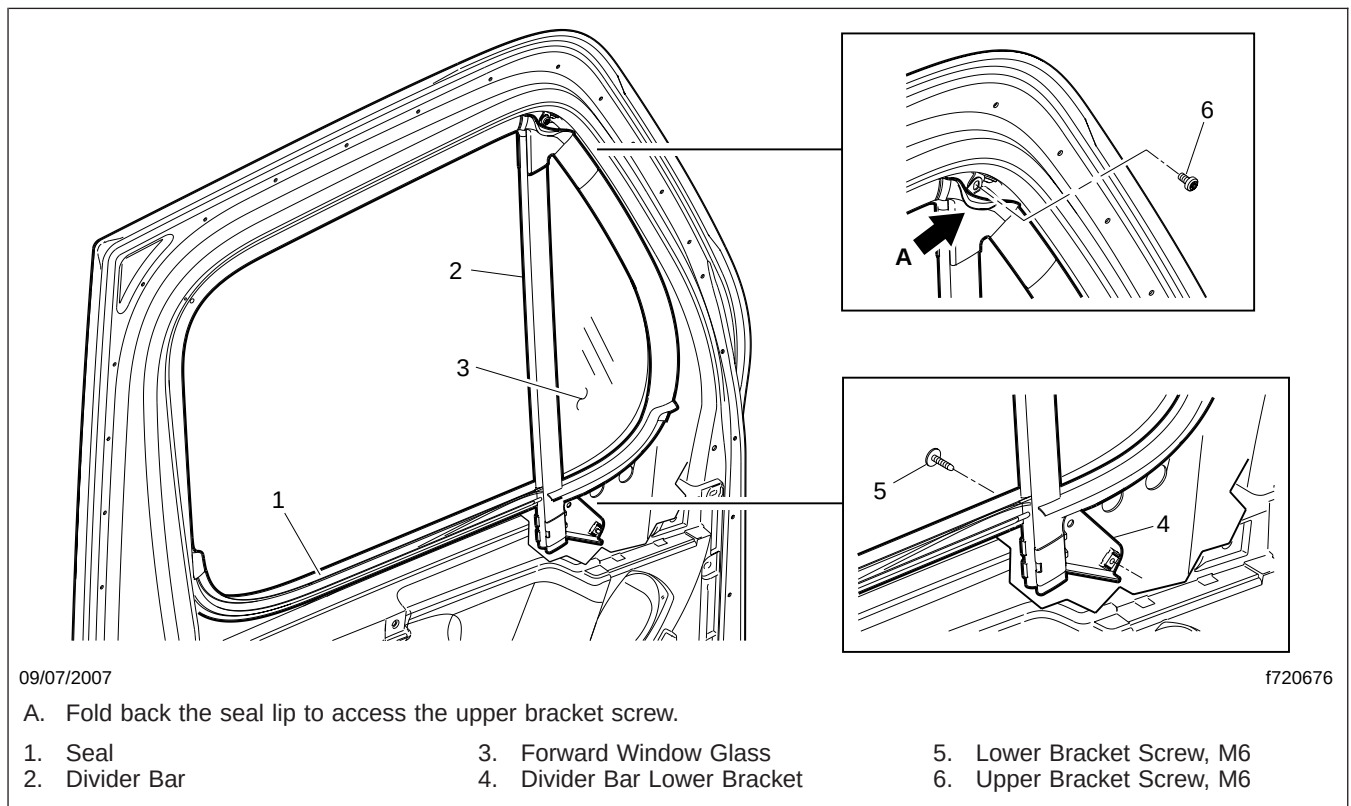

Fig. 1, Forward Window Glass and Seal
5. Fold back the seal lip to access the M6 Torx® screw that attaches the upper bracket of the forward window to the door. Remove the screw; see Fig. 1.